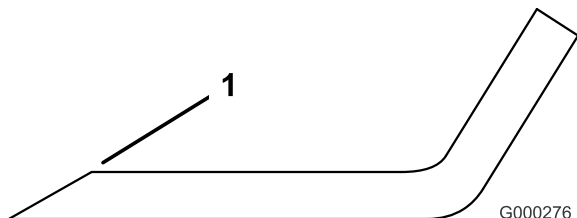

Figure 82
1. Use a file to sharpen the cutting edge at both ends of the blade (Figure 82).